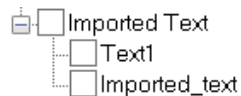

Figure 11.3-5 Example of a List of Imported External-Text Files
- **External Text.** Text files you have imported for possible inclusion in your report will be listed in RGM as shown in **Fig. 11.3-5**.